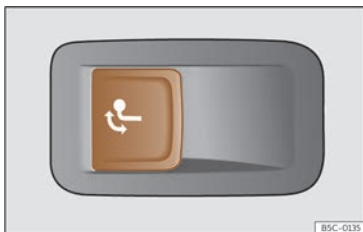

Fig. 195 Left side of the luggage compartment: button to unlock the tow hitch.
- Pull the >>> **Fig. 195** button briefly. The tow hook unlocks electrically and automatically turns outwards. The button's control lamp flashes.
• Pull the >>> **Fig. 195** button briefly. The tow hook unlocks electrically.
- Never press the button >>> Fig. 195 when there is a trailer hooked to the vehicle or when a carrier system or other accessories are mounted on the tow hook.